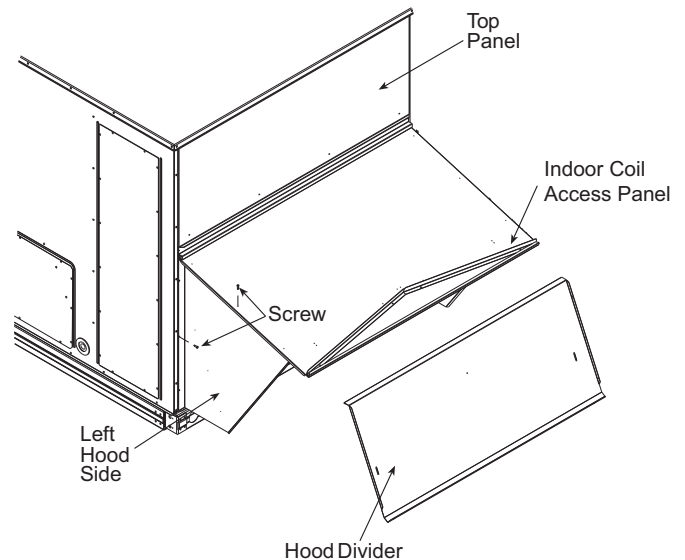

Fig. 21 — Economizer Hood Construction
2. Swing out indoor coil access panel and insert the hood sides under the panel (hood top). Be careful not to lift the panel too far as it might fall out. Use the screws provided to attach the hood sides to the hood top and to attach the hood sides to the unit. See Fig. 21.
4. Insert the hood divider between the hood sides. See Fig. 21 and 22 for construction and installation. Secure hood divider with 3 screws on each hood side. The hood divider is also used as the bottom filter rack for the aluminum filter.